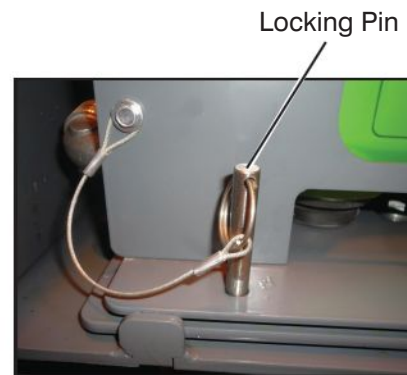

Figure 3-6. HPP Locking Pin
1. Remove locking pin (shown in Figure 3.6) and rotate HPP to access the HPP fuel on/off switch and air inflow on/off switch.